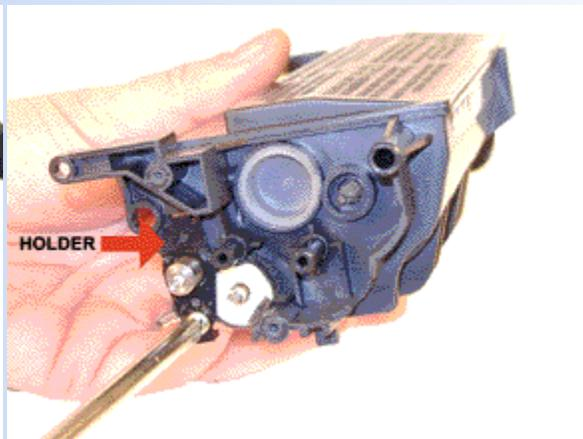

FIGURE 23
17. Remove the screw and holder from the left side of the developer roller. See Figure 23